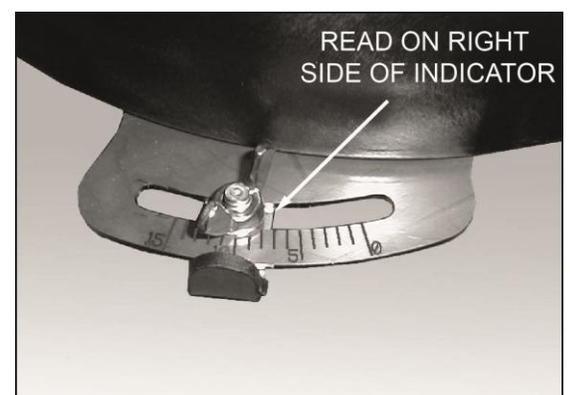

Figure 1-11
2. Loosen wing nut and move gauge to desired setting. See figure 1-11.